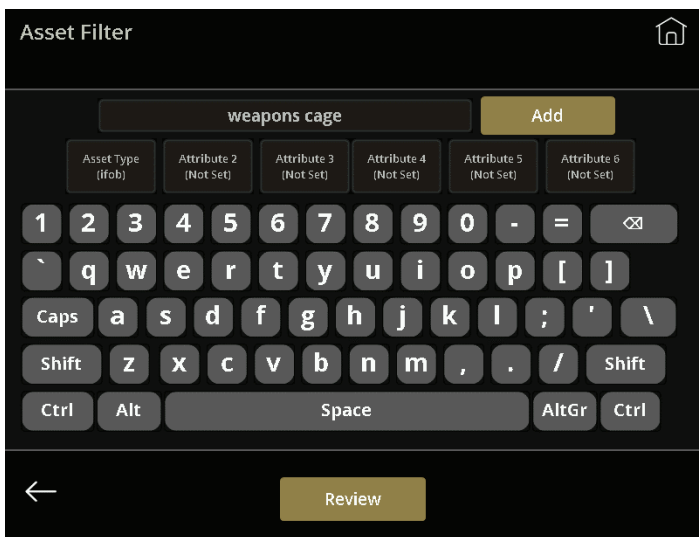

Figure 34: Filter Screen
Now in figure 34, the green message box indicates the narrowing of the list to one (1) asset.